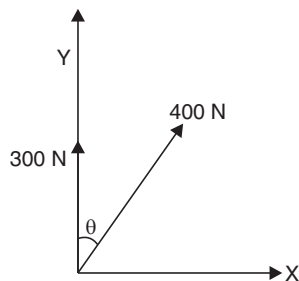

Fig. 2.48
**Sol.** Refer to Figs. 2.48 and 2.49